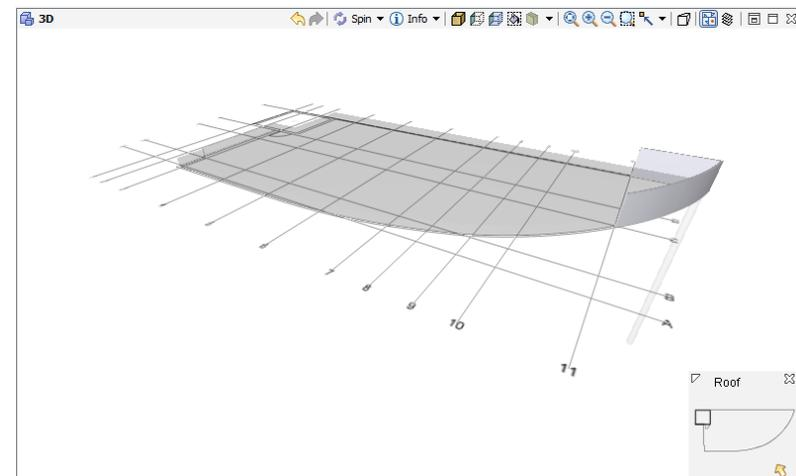

Figure 51 Components attached to issue are shown
- (8) **View components**, when you click category "Wall Components touch below partially", only components attached to issues of the category, are shown in **3D View**. The footprints of the related building floors are also shown for easy visualization (see Figure 51), please note the adjustable **Navigation Map** at the bottom right corner.